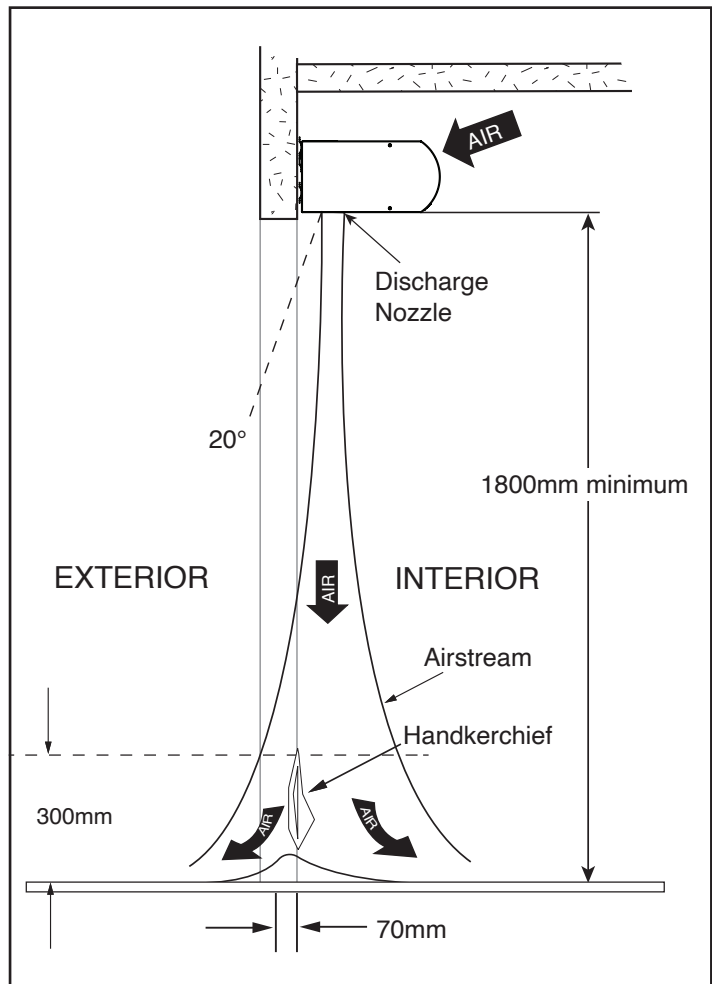

Figure 9 - Air Stream Adjustment
2. Find the air stream split location. Hold a handkerchief by its corners, approximately 300mm above the floor. Gently move the handkerchief back and forth in the doorway. Make sure the air is being directed to both the inside and the outside. **See Figure 9.** The split location is indicated where the handkerchief is vertical with minimal or no fluttering.